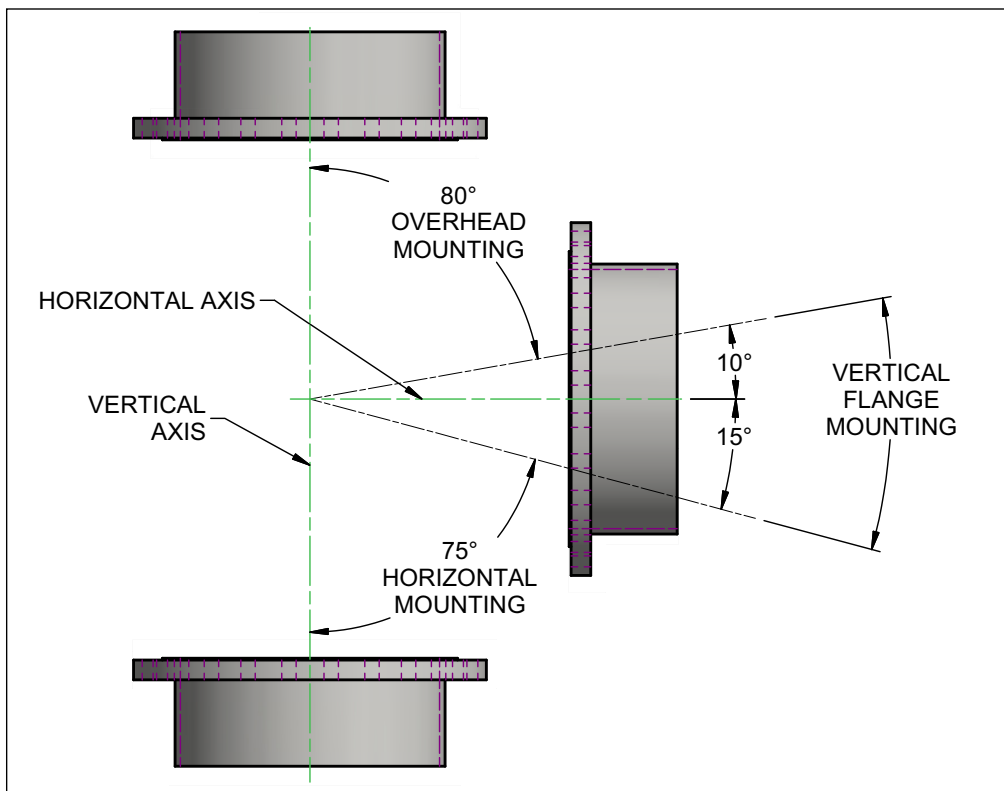

FIGURE 3-3. MOUNTING ARRANGEMENTS
- If the setup fingers must be removed, block the machine up from below or secure the machine to anchor points above the machine using a minimum of two opposite swivel hoist rings with the customer-supplied anchor points and slings rated for the machine weight and sling angle. See Figure 3-3.
minimum of one swivel hoist ring with the customer-supplied anchor points and slings rated for the machine weight and sling angle. See Figure 3-3.
- If the flange is too thick to allow for the use of the setup fingers, secure the machine to anchor points above the machine using a minimum of two opposite swivel hoist rings with the customer-supplied anchor points and slings rated for the machine weight and sling angle. See Figure 3-3.